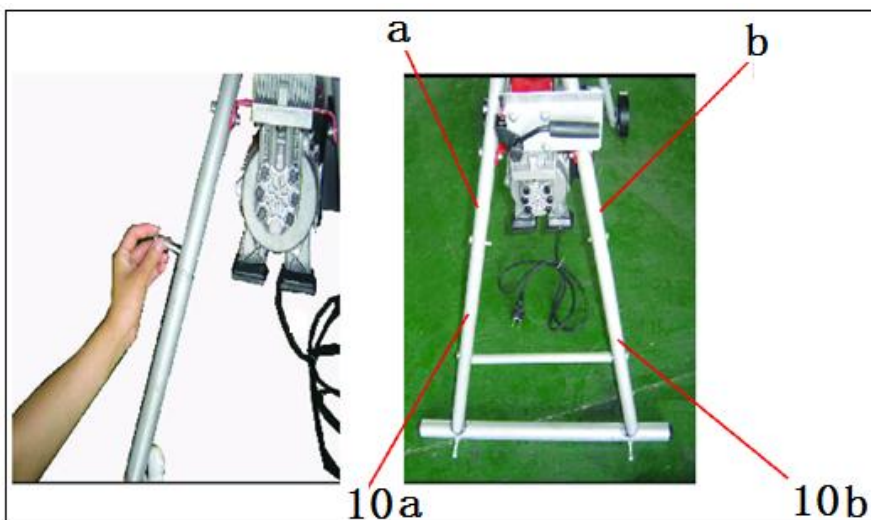

fig.2
- a) Connect front stand (10a) to connection pipe (a) and front stand (10b) to connection pipe (b) by bolts and nuts (fig.2).